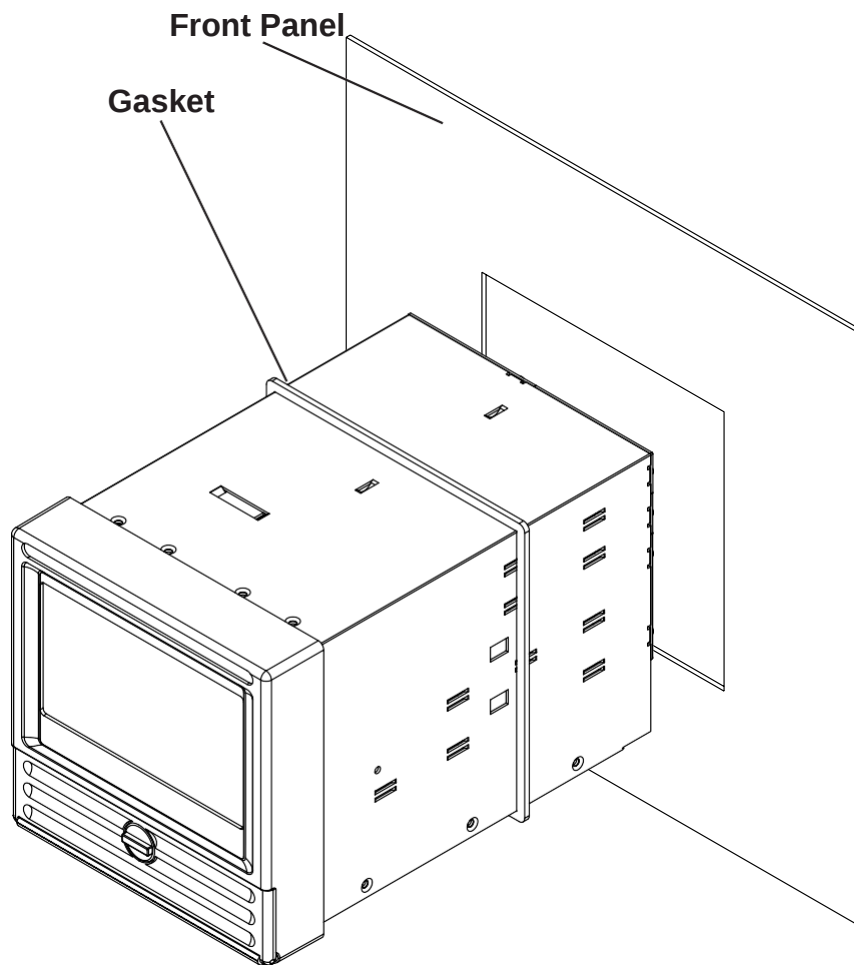

Figure 2-2 Front Panel Insertion
- 2.2.1.4** Insert the Recorder **rear end first**, into the panel opening from the front of the panel as shown in Figure 2-2. Ensure that the gasket is between the front bezel of the Recorder and the front panel.